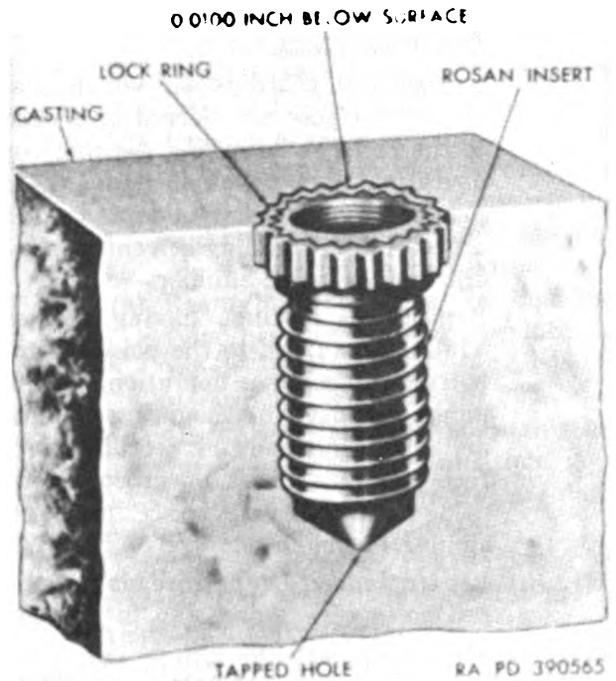
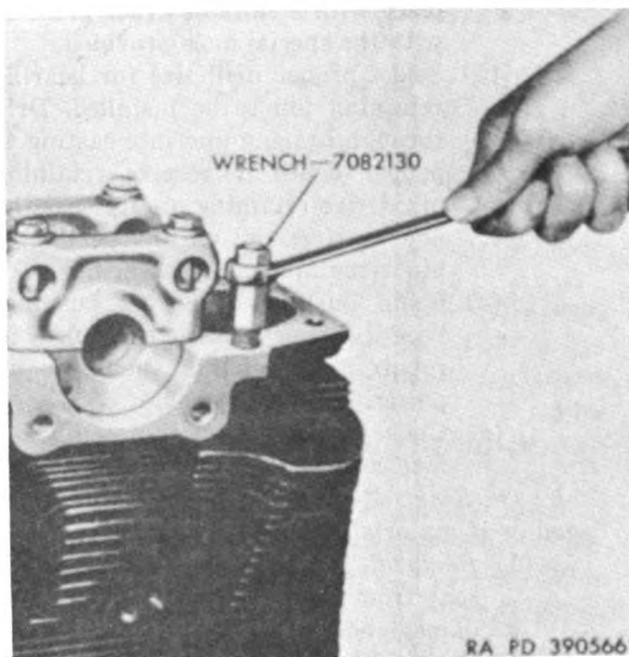

Figure 61. Rosan insert and locking ring—cross-sectional view of installation.
Figure 62. Installing Rosan insert.
- (1) *Description.* To permit higher stresses on studs and bolts which are set in aluminum castings, it is a common practice to install inserts of a stronger metal into which the studs or bolts are threaded. Rosan inserts (fig. 61) are screwed into softer castings until they are slightly below the casting surface. A lock ring, broached to fit the splined end of the insert and coarse milled on the outer edge, is driven into the counterbore of the casting. The lock ring prevents any turning of the insert.
- (2) *Inspection.* Inspect all Rosan inserts for secure fit in casting and for galled or stripped threads.
- (1) *Removal.*
- (a) Using a drill slightly smaller than inner serrations of lock ring (fig. 61) drill out center of insert to the depth of lock ring.
- (2) *Installation.*
- (a) Using proper size Rosan insert wrench as shown in figure 62, turn insert into casting until it is slightly below the surface as shown in figure 61.
- (b) Place new lock ring in position, with teeth of lock ring matching teeth on insert as shown in figure 61.